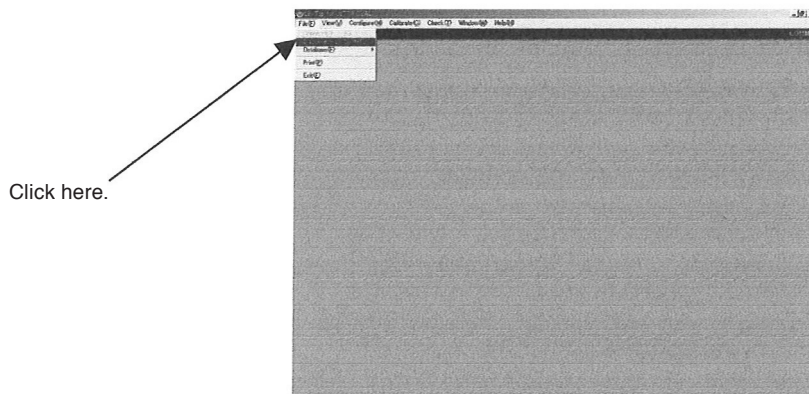

Fig.11
- ① Click on "File (F)" at top-level menu on the screen as shown in Fig. 11, select "Disconnect (U) Shift + F3" and click on again.